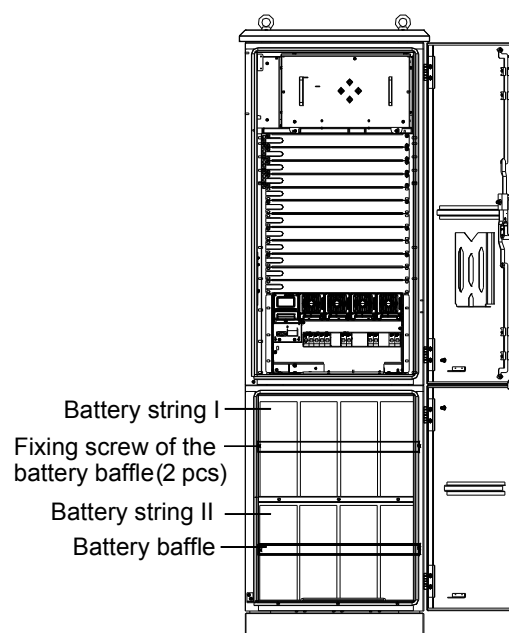

Figure 2-16 Position of the battery baffle
When installing two battery strings, install battery string II first. While disassembling them, disassemble battery string I first. Battery I and battery string II positions are shown in Figure 2-16.
2. Remove the two fixing screws of the battery baffle (optional) and take off the baffle. The baffles are shown in Figure 2-16.